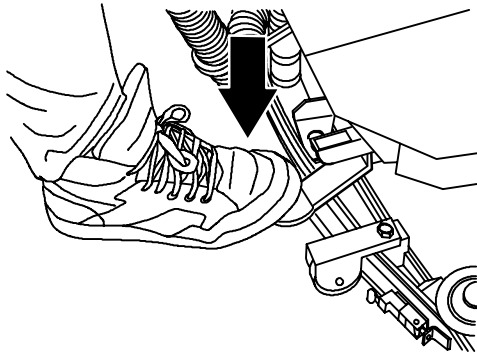

FIG. 9
3. Raise the scrub head with the scrub head lift pedal (Figure 9).